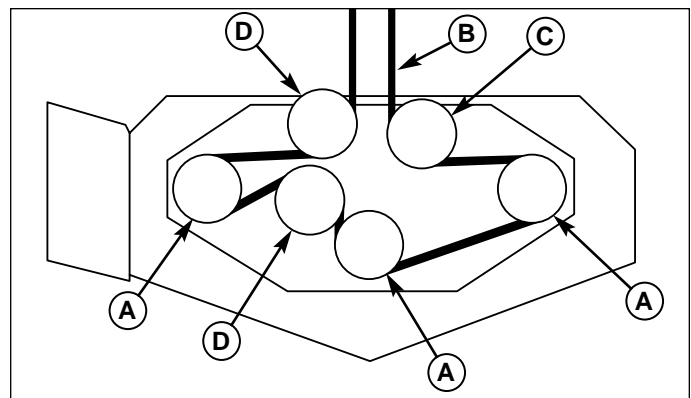

Figure 36. Mower PTO Belt Routing
5. Remove the old belt and replace with a new one. Make sure the V-side of the belt runs in the pulley grooves (Figure 36).